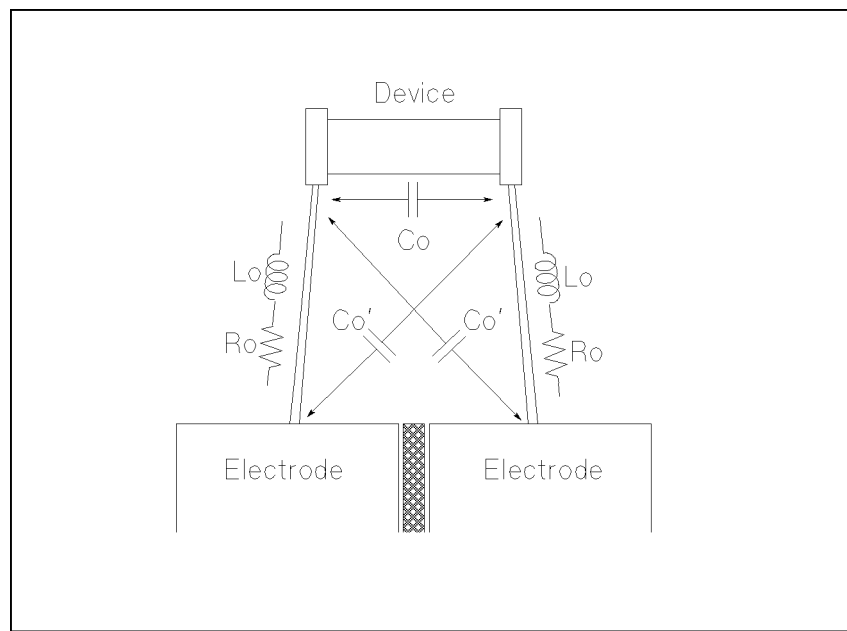

Figure 6-17. Parasitic Impedance Model (Using the 16047A/C/D)
- a. Leave the 16047A in an OPEN condition as shown in Figure 6-17.